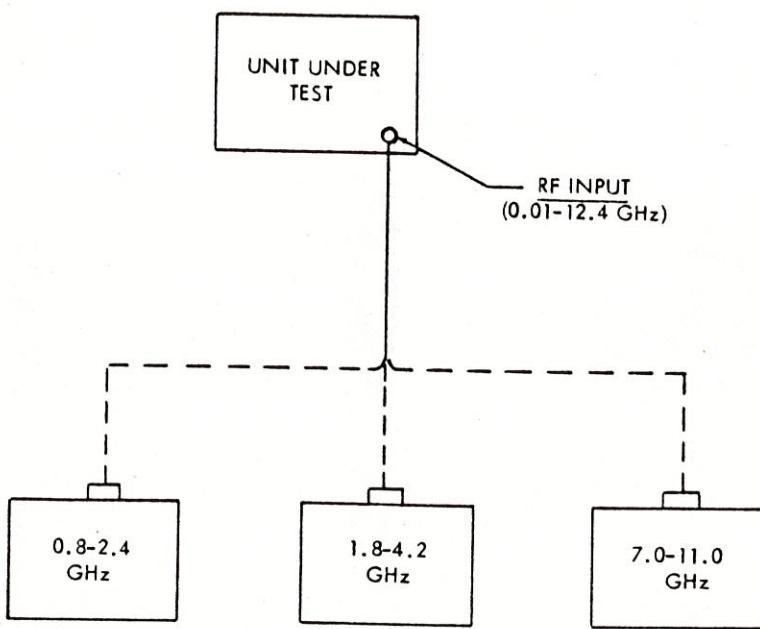

Figure 6-3. Sensitivity Test Set-up
- (1) Connect the indicated signal sources to RF INPUT (figure 6-3).
- (2) With BAND SELECT set to 1, set FREQUENCY TUNE to 1.0 GHz.
- (3) Set signal source output power to apply -85 dBm to RF INPUT.
- (4) Observe the display. Signal displayed shall be 3 dB or greater above noise.
- (5) Set BAND SELECT to 2, FREQUENCY TUNE to 4.0 GHz.
- (6) Set signal source output power to apply -80 dBm to RF INPUT.
- (7) Repeat step 4.
- (8) Set BAND SELECT to 3, FREQUENCY TUNE to 8.0 GHz.
- (9) Set signal source output power to apply -75 dBm to RF INPUT.
- (10) Repeat step 4.